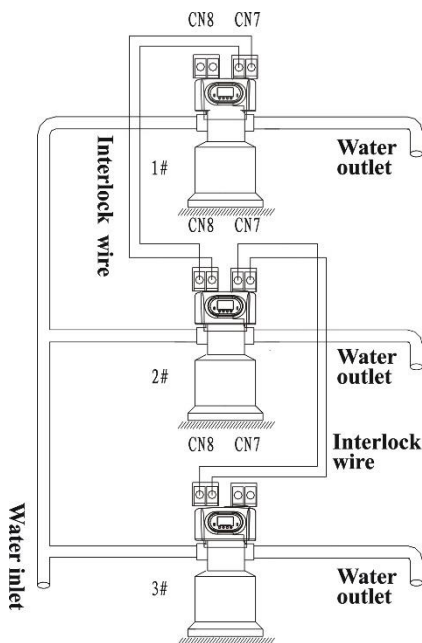

Figure 3-11 All in Service Singular Regeneration.
* **Function:** 2 or more valves interlocked connecting in one system. Refer to Figure 3-11 and 3-12.